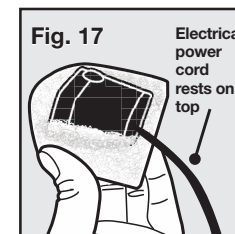
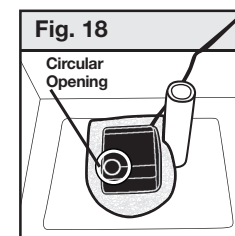

**Fig. 17**
**Fig. 18**
- Place the foam filter around the pump (**Fig. 17**). Take the bowl and place pump inside the square indentation. With the bowl positioned so the raised post is at the top right corner of the square, make sure the pump is positioned so that the circular opening on the top of the pump is positioned in the bottom left corner of the square (**Fig. 18**).